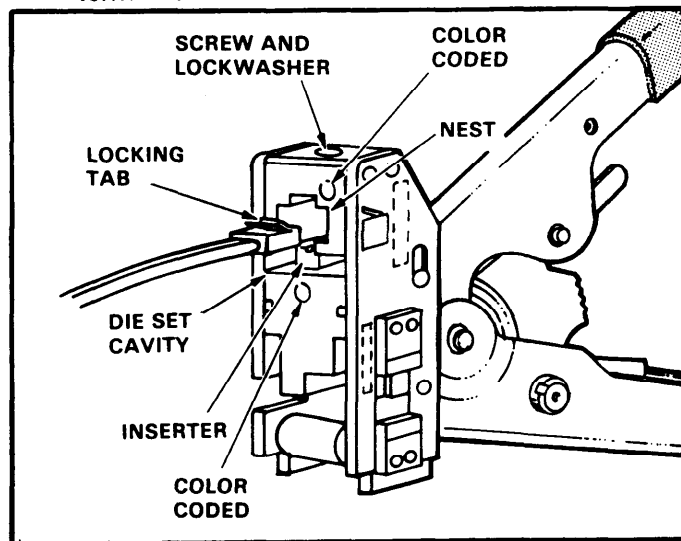

Fig. 5
2. Hold tool as shown in Figure 5. Make sure ratchet is released — squeeze tool handles together and allow them to open fully.
3. Orient connector with die set cavity — locking tab facing upward — as shown in Figure 5. Insert connector straight into die set until it bottoms — **LOCKING TAB MUST SNAP INTO CAVITY.**
1. Remove die set screw and lockwasher. Slide die set (inserter and nest) out of tool. See Figure 5.